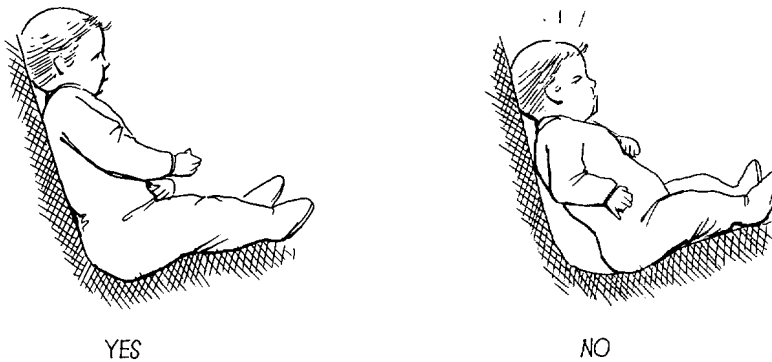

Figure 13-2. Positioning of Infant in a Rear-Facing Infant Seat.
- Position the child firmly against the back and bottom of the child safety restraint system (see Figure 13-2).